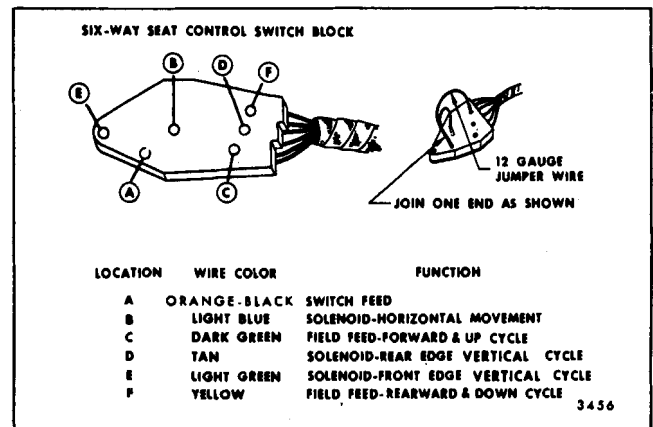

Fig. 15-45-Six-Way Seat Switch Block in Arm Rest
2. On bodies with switch in arm rest (See Fig. 15-45) proceed as follows: